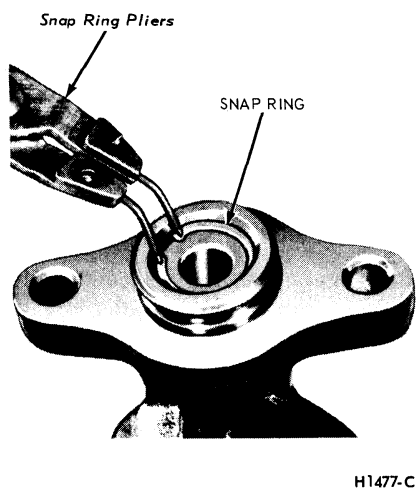

FIG. 26 Removing Snap Ring—Typical
4. Remove the snap ring (Fig. 26) retaining the primary and secondary piston assemblies within the cylinder body.
3. Pull back the push rod boot and remove the snap ring from the groove in the end of the cylinder bore as shown in Fig. 26.